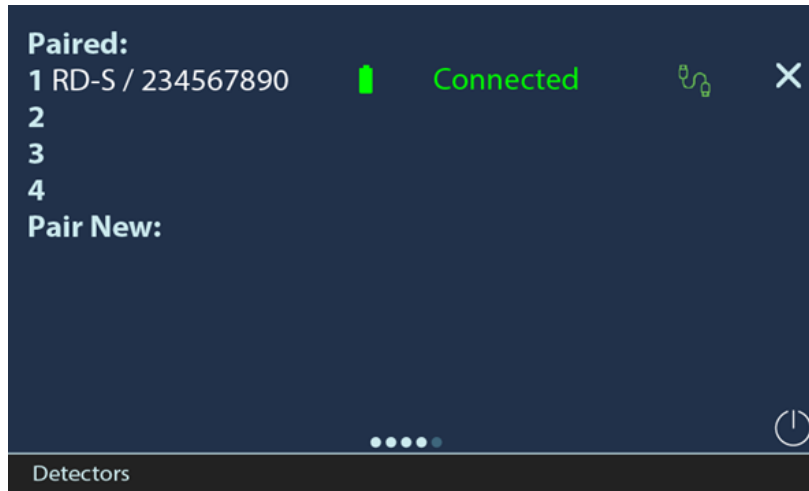

Figure 8: RLM successfully paired to a detector
- On the RLM front panel touchscreen, swipe to the *Detectors* page to verify that the RD-S is detected and paired, see Figure 8.